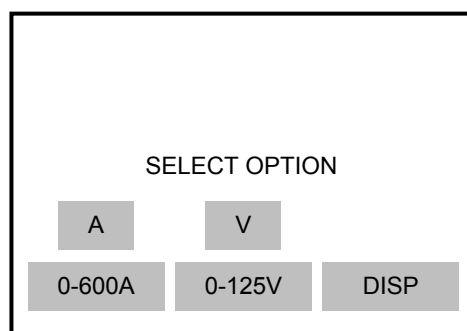

Figure 4 The main menu (for PCITS600/2) showing the testing option available
8. The main menu showing the testing options then appears on the display screen as in figure 4.
1. From the main menu display screen press the right hand key labelled 'DISP'. The 'DISPLAY OPTIONS' sub-menu appears. The keys are labelled 'CONTRAST', 'LANG' and 'MENU'. Pressing the 'MENU' key returns to the main menu as shown in figure 4.